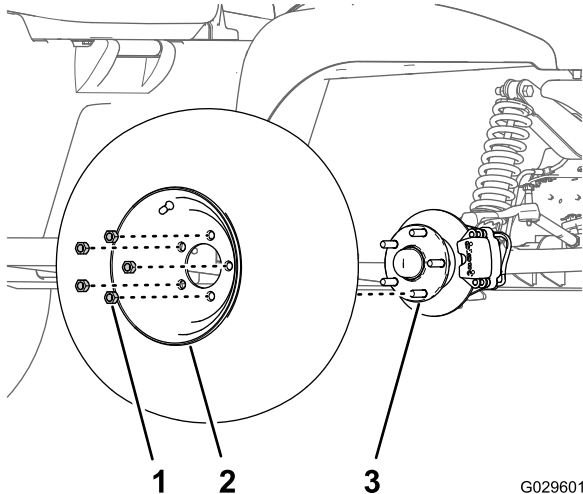

Figure 28
2. Remove the 5 lug nuts that secure the wheel to the hub (Figure 28).
4. Align the holes in the wheel to the studs of the hub and assemble the wheel to the hub with the valve stem outward (Figure 28).
5. Secure the wheel to the hub with the lug nuts (Figure 28), and torque the nuts to 108 to 122 N-m (80 to 90 ft-lb).